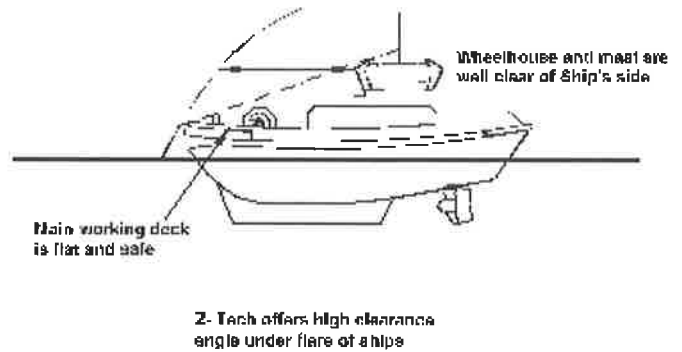

Figure A.7 Aft-ward disposition of the deckhouse and wheelhouse enables the Z-Tech to get well under ship's flares
- The low sheer forward, coupled with the aft bias of the deckhouse and wheelhouse enable the **Z-Tech** design to work under large overhanging ship flares (Figure A.7)